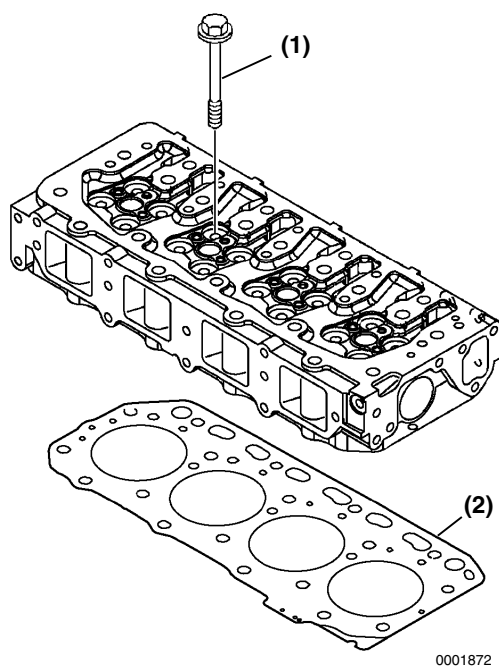

Figure 6-44
2. Remove the cylinder head bolts (**Figure 6-44, (1)**).
3. Lift the cylinder head away from the cylinder block. Discard the cylinder head gasket (**Figure 6-44, (2)**). Place the cylinder head on the work bench to prevent damage to the combustion surface.